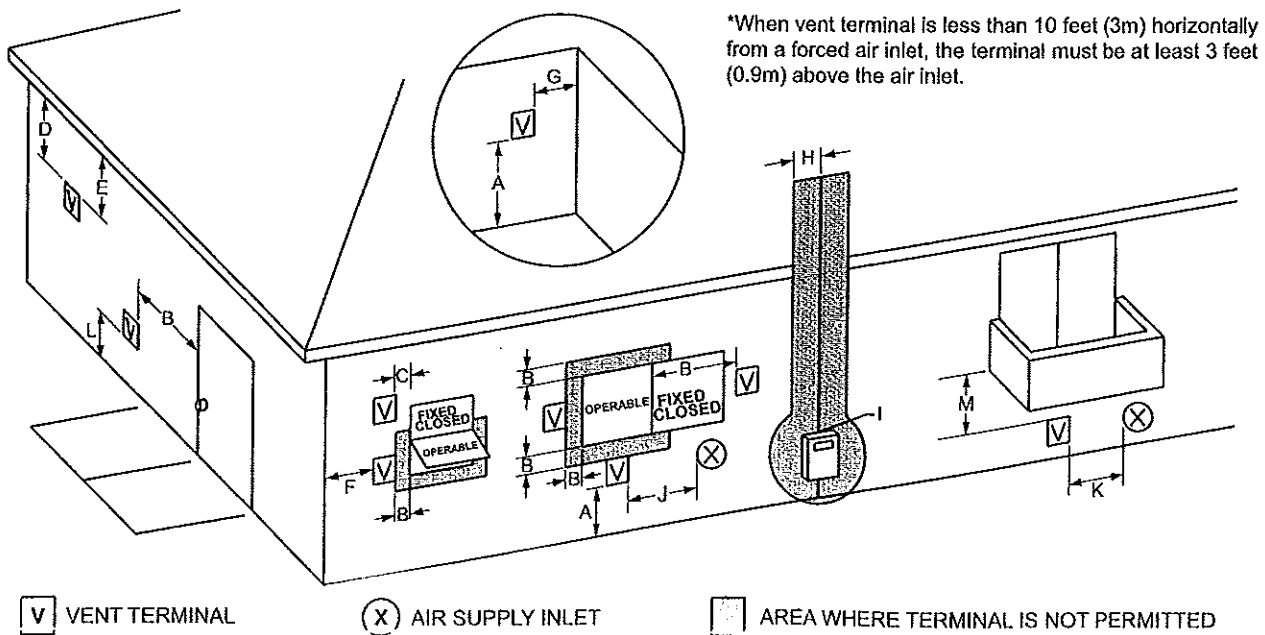

Figure 9. Combustion Air and Vent Through Side Wall.
1. Figure 9 shows the requirements for mechanical vent terminal clearances for the U.S. and Canada.
7. If the boiler or water heater uses ducted combustion air from an intake terminal located on the same wall, see Figure 9 for proper spacing and orientation.
The LAARS side wall combustion air terminal, or concentric terminal (see Table 3), must be used when the heater takes air from a side wall. Consider the following when installing the terminal (see Figure 9):